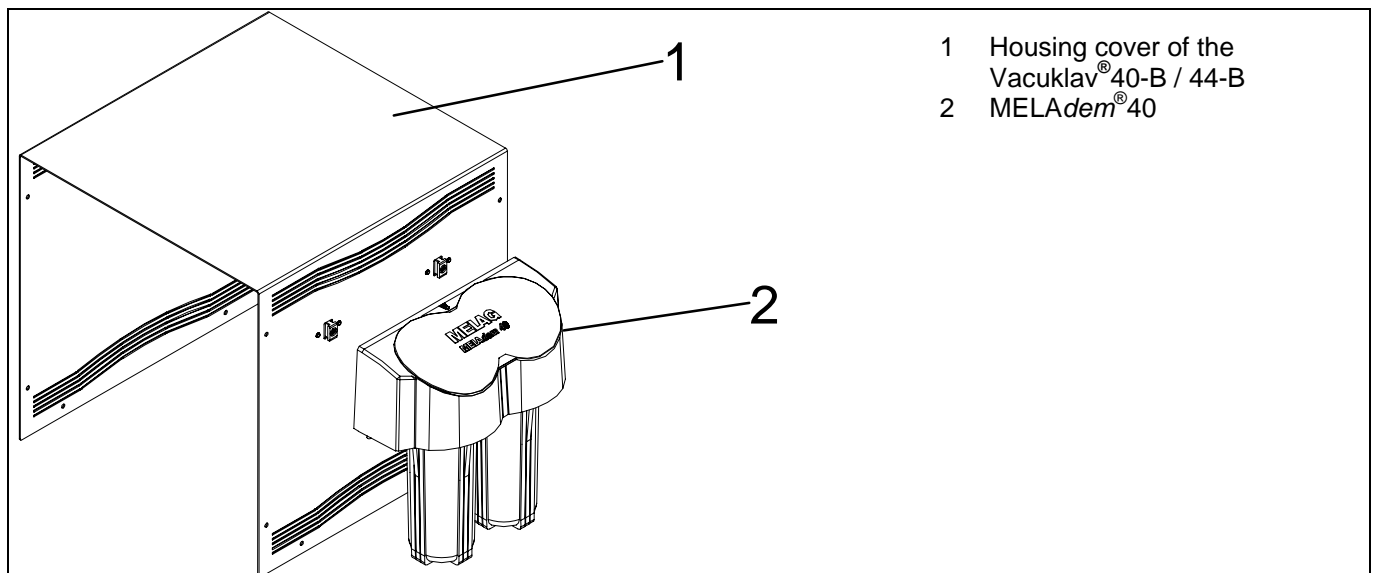
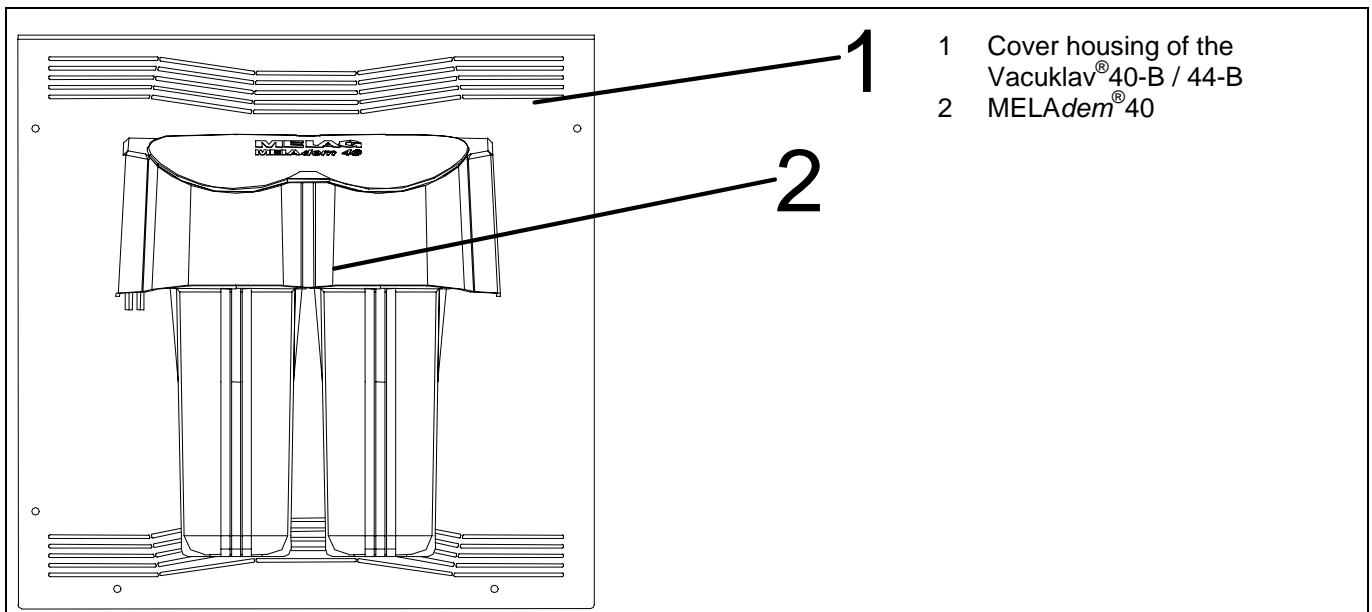

Figure 5: Position for hanging the MELAdem[®]40 to the Vacuklav[®]40-B / Vacuklav[®]44-B
Figure 6: Correct position of MELAdem[®]40 on the housing of Vacuklav[®]40-B / Vacuklav[®]44-B
3. Hang the MELAdem[®]40 down into the mounting fixtures by sliding it vertically from above, and push it downward until it locks firmly into place (see Figure 5). The final position is shown in Figure 6 below.